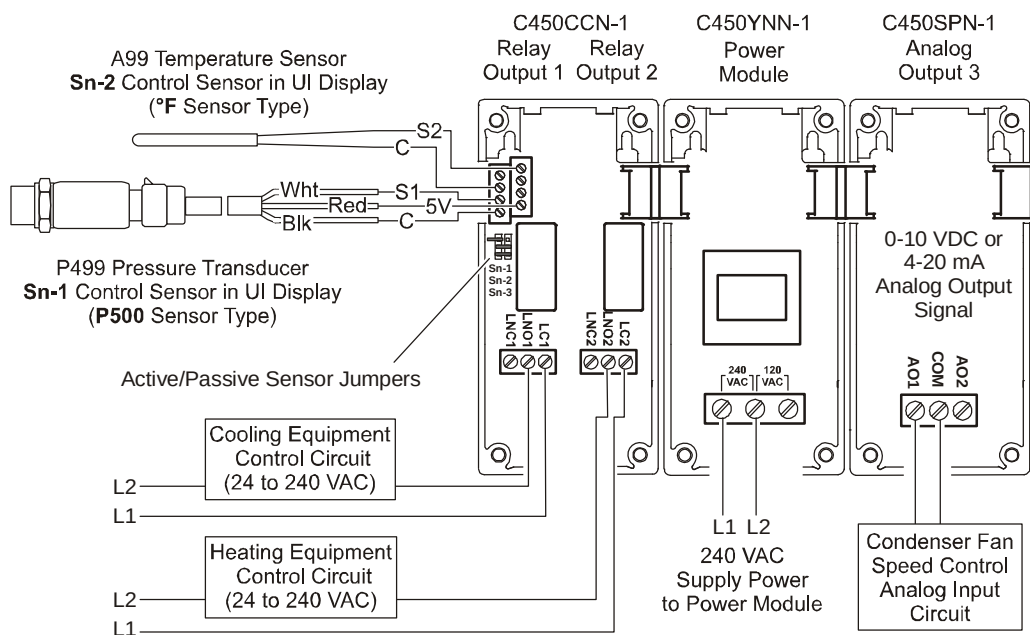
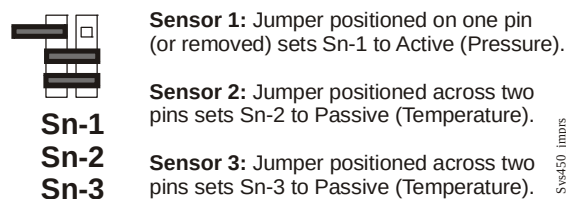

Figure 3: Example System 450 Heat/Cool System with Condenser Fan Speed Control
Figure 5: Active/Passive Sensor Terminal Pin Block Set Up for the Example in Figure 3
- Mount the modules upright and plugged together in a horizontal row where possible (Figure 3). DIN rail mounting is highly recommended.
3. Clip the remaining power and/or expansion modules to the right of the control module on to the DIN rail and plug the 6-pin module connectors together (Figure 3).
Sn-1, Sn-2, Sn-3	Accepts passive or active (0–5 VDC) input signals from sensors. Note: You must position the Active/Passive Sensor Jumper (Figure 3 and Figure 6) correctly for each sensor in your control system before operating the system. See Setting Active/Passive Sensor Jumpers for more information.
A System 450 control system consists of one control module, one to three control sensor inputs, and one to ten outputs that provide On/Off control and/or analog control. Figure 3 shows an example System 450 module assembly with two input sensors and three outputs (two relay outputs and one analog output).
Before putting your System 450 reset control system into operation, you must set up each sensor in your system as either passive or active by positioning the jumper on the terminal pins on the terminal block located below the sensor terminal block. See Figure 3.
Temperature sensors are passive (two-wire) sensors and the corresponding jumpers must be positioned across both pins. Humidity and pressure transducers are active (three-wire) sensors and corresponding jumpers must be positioned on one pin (or removed completely). Figure 5 shows the jumper positions for the System 450 example shown in Figure 3.